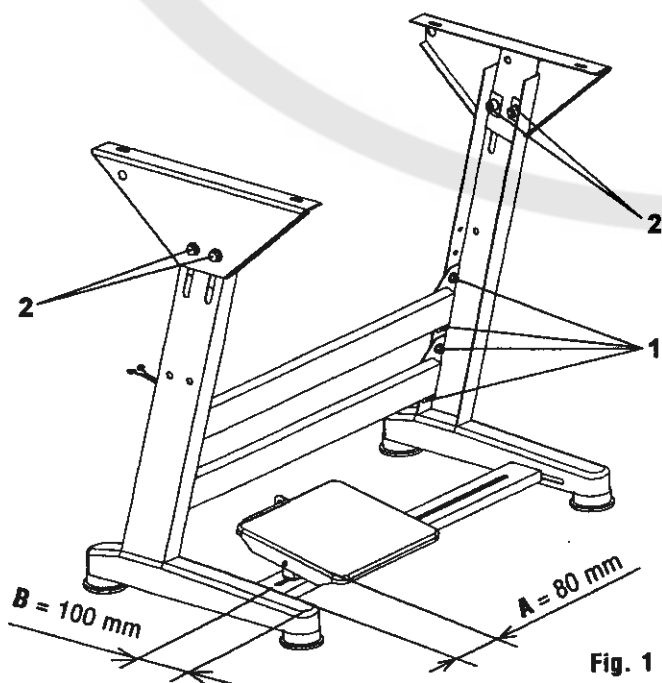

Fig. 1
## 4. Assembly of the stand frame and height setting (Fig. 1)
Proceed to the assembly of the stand frame according to the Fig. 1. The dimension "B" is destined for a middle-high stature of the machine attending person. For a higher stature it is necessary to increase the dimension "B" and inversely. The machine feet are to be levelled with the floor in loosening the screws (1). Using the screws (2) it is possible to set up the height of the stand table top.